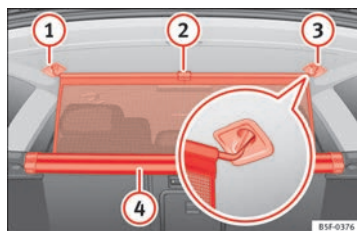

Fig. 100 In the luggage compartment: pulling out and securing the net partition.
- Pull up handle ⇒ Fig. 100 ② to remove the net from the casing ④.
- Hook in the net partition on the right side ③ (magnified image).
- Hook in the net partition in the left side housing ① pulling the rod.